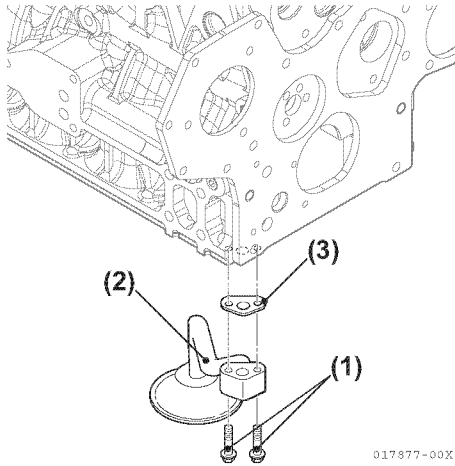
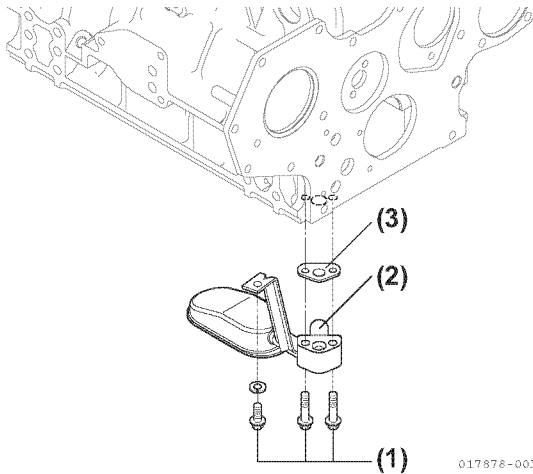

Figure 8-11
Figure 8-12
3. Remove bolts (**Figure 8-11, (1)**), (**Figure 8-12, (1)**). Remove oil inlet pipe (**Figure 8-11, (2)**), (**Figure 8-12, (2)**) and gasket (**Figure 8-11, (3)**), (**Figure 8-12, (3)**).